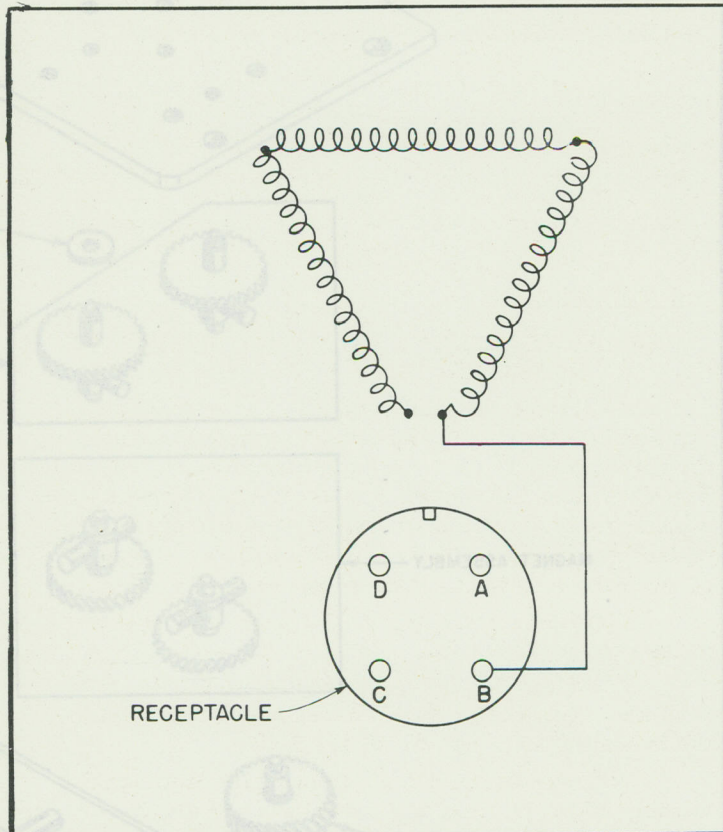

Figure 20—Internal Wiring Diagram
(b) Slip the four leads from the Flux Gate assembly (10) through the receptacle mounting plate (17) and solder the leads to the pins of the electrical connector receptacle (3). Be sure each lead is connected to the proper terminal as follows (figure 20):
(c) Slide the insulating sleeving (6) over the four leads from the Magnesyn assembly. Solder the leads to the proper terminals on the receptacle as follows (figure 20):